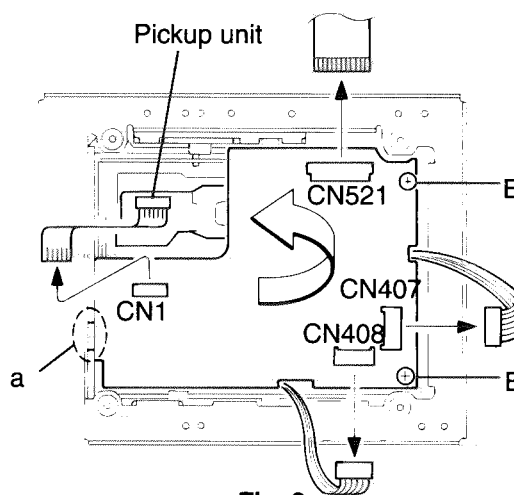

Fig. 2
■ Removing the MD Servo Board (see Fig.2)